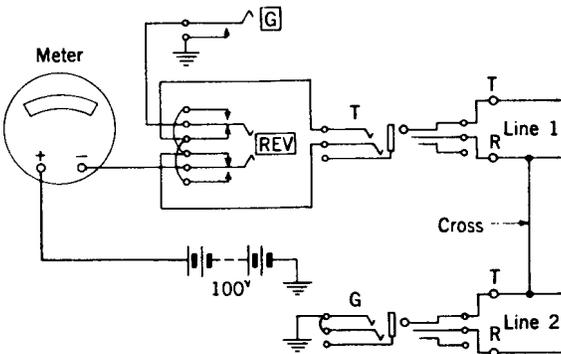

Fig. 9 - Test for Cross between Lines
5.14 To test for a cross between two lines establish a test connection to the first line through jack T, and to the second line through jack G. A deflection indicates that the ring of the first line is crossed with the tip or ring of the second line. Operate the REV key to check the tip side of the first line. See Fig. 9. This test is effective only when each line is free from grounds.